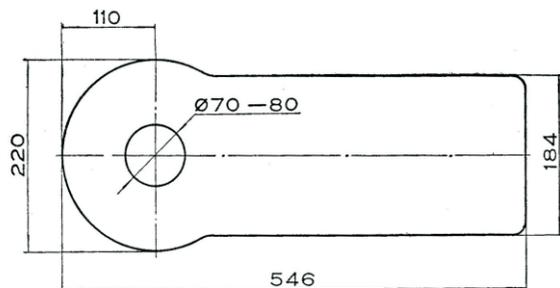

Fig. 1
- ◆ Lift the bottom plate, unscrew the two (2) M 10 bolts under the bottom plate with a spanner, to separate the hardness tester from bottom plate, all steps shall be done in a safe manner.
- ◆ After unpacking, the tester shall be placed on a stable bench with levelness deviation less than 1 mm/m. A hole shall be drilled at an appropriate location on the bench (see fig 1) to enable the lifting screw to operate properly.